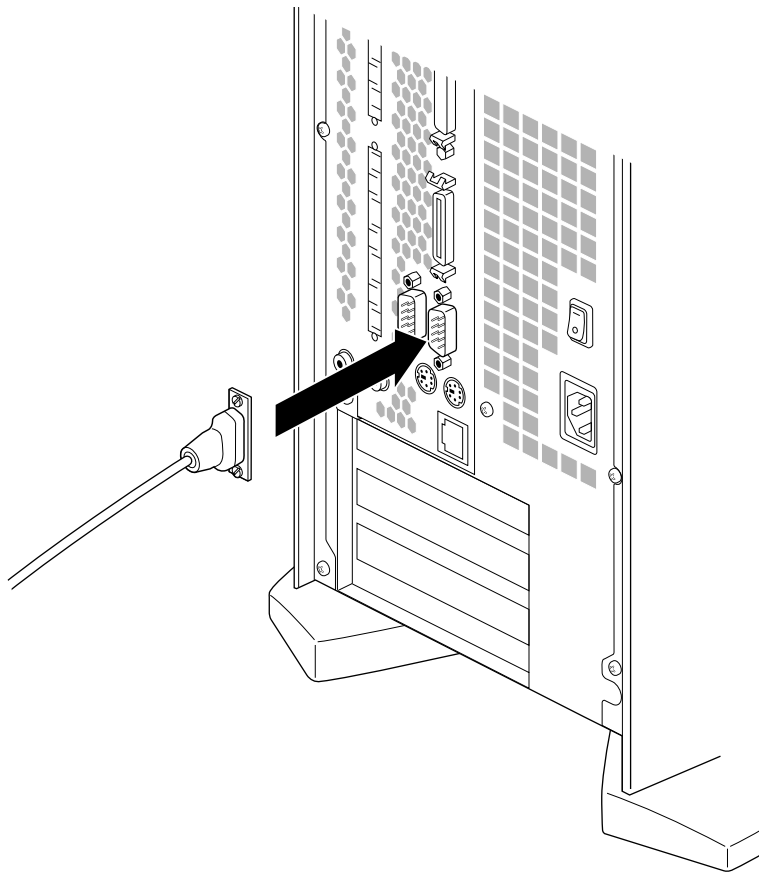

Figure 4-6 Attaching a Serial Cable to Port 1 of the Origin200 Server
3. Attach the DB9 connector to serial port 1, as shown in Figure 4-6.